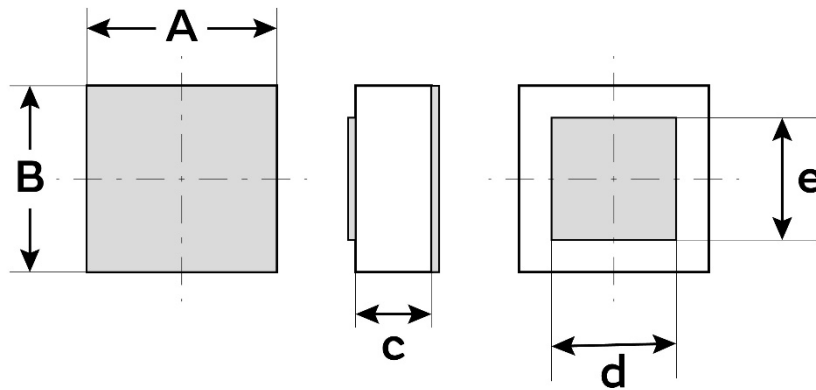

Figure 9 - Package outline drawing
(1) Other film frame carrier are possible on request
(2) Au = TiWAu (0.3μm) / Au (3μm)
(3) Refer to Figure 9
(4) missing capacitors can reach 0.5%